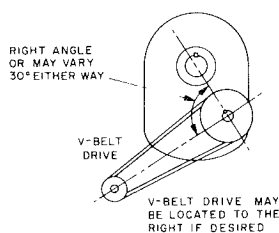

Fig. 3
5. Install motor and V-belt drive so belt pull will approximately be at right angles to the center line between driven and input shaft. (See Fig. 3) This will permit tightening the V-belt drive with the torque arm.